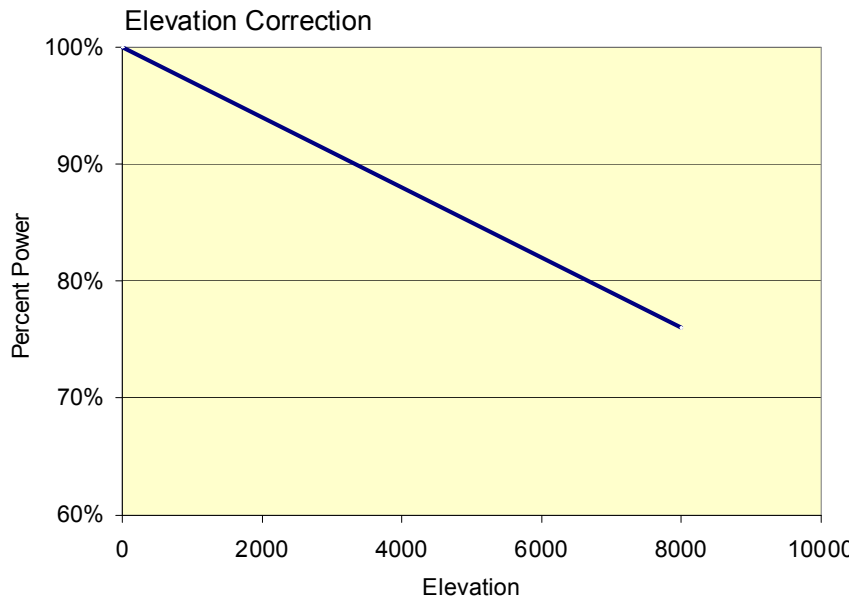

Figure 2-4 An Example of the Effect of Altitude (above sea level, feet) on the Electric Power Output
- Figure 2-4 shows the effects of altitude on gas turbine **performance**